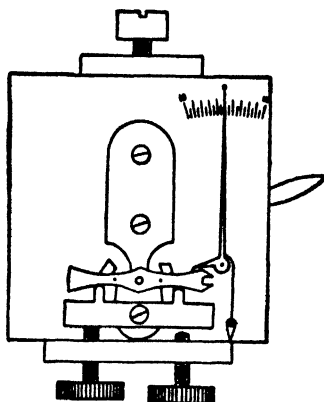

Fig. 62.—Tool for Putting Pallets in Angle
**Tool for Putting Pallets in Angle.**—A special tool is used for putting the pallets and lever of a watch in angle. The lever and pallets are held in a small clamp (see Fig. 62), a small tilting piece, actuated by the two thumbscrews, is forced against the lever,